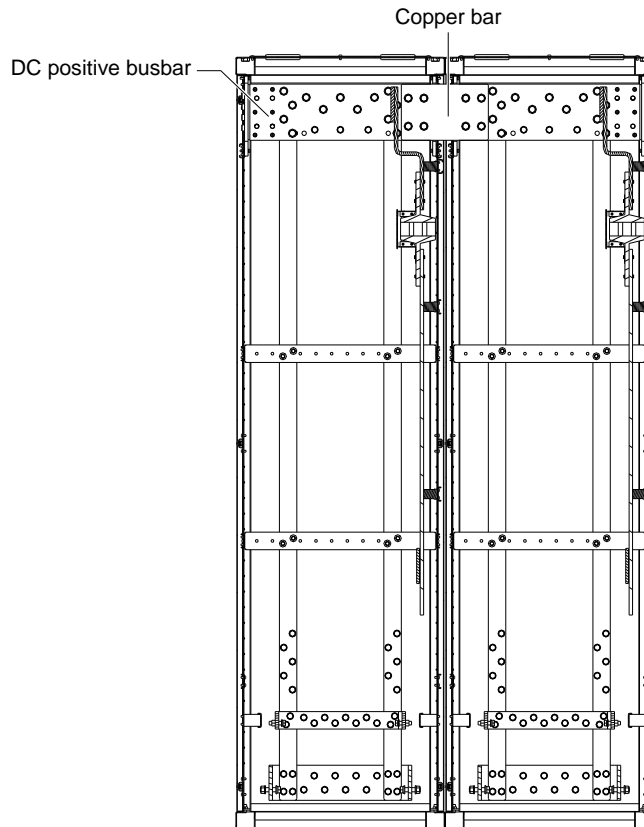
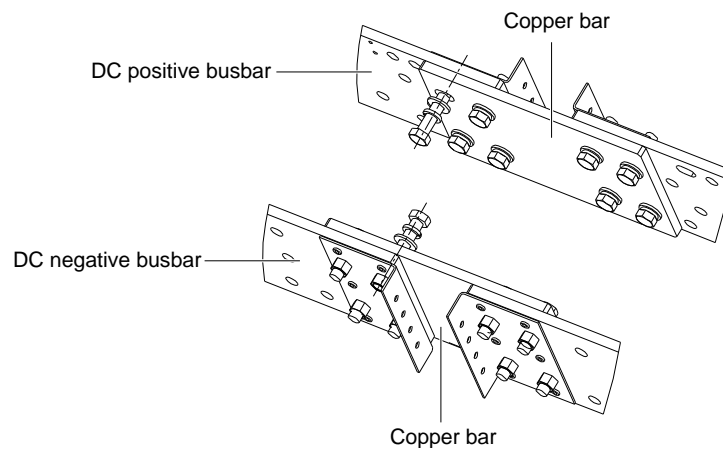

Figure 3-6 Parallel connection (back view)
Figure 3-7 Parallel connection of copper bars
4. Connect the positive bars and negative bars inside the cabinet respectively by copper bars and screws, as shown in Figure 3-6 and Figure 3-7.